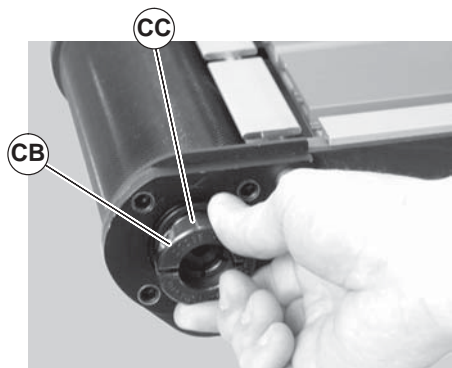
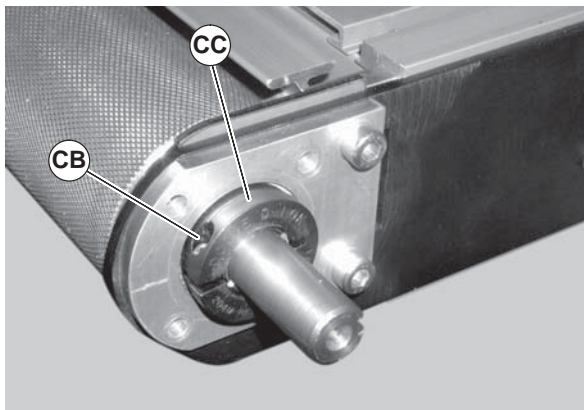

Figure 60
Figure 61
4. Loosen the bearing collar set screw (Figure 60, item CB) and remove bearing collar (CC). Repeat on drive shaft side of pulley (Figure 61, item CB & CC).